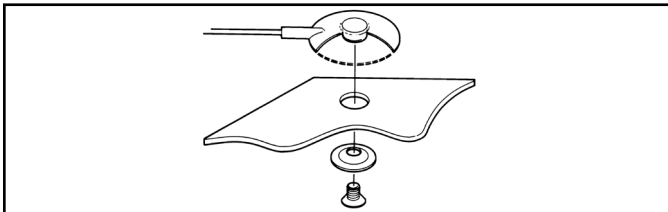

Figure 5. Screw allows ground cord to be bolted to mat to keep cord from disconnecting
4. Route the mat monitor cord from the back of the monitor to the worksurface mat. Use the included washer and screw to secure the cord to the mat (see Figure 5). The worksurface mat requires its ground cord to have an embedded 1 megohm resistor such as the Desco 09813.